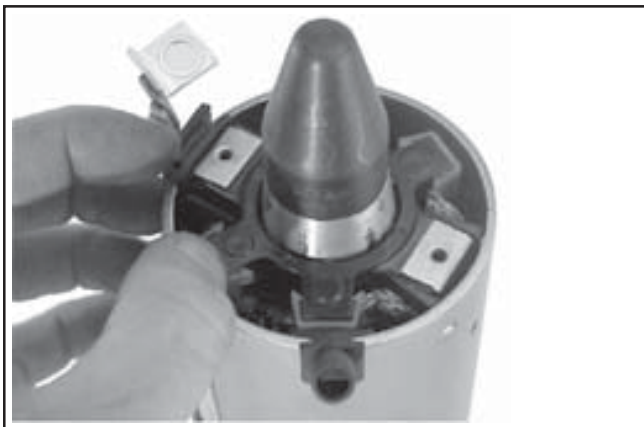

Figure 8-70. Installing Brush Holder Assembly using Tool with Extension.
- Hold the starter assembly vertically on the end housing, and carefully place the tool (with extension) and assembled original brush holder assembly onto the end of the armature shaft. Slide the brush holder assembly down into place around the commutator, install the positive (+) brush lead grommet in the cutout of the frame. See Figure 8-70.